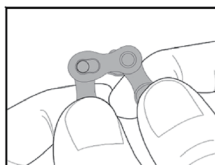

Fig.4
1. To disconnect the Drive link, isolate the link. (Fig.4)